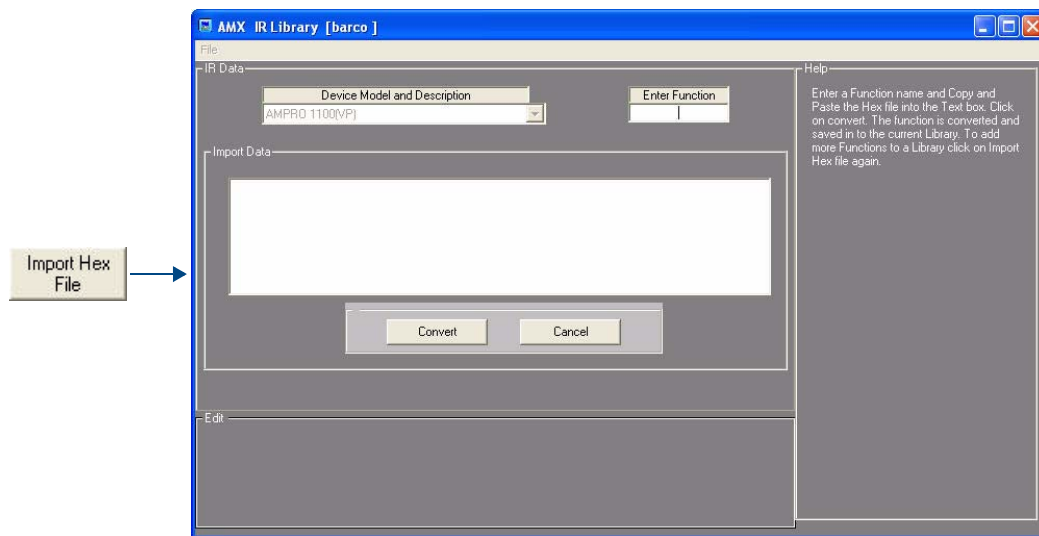

FIG. 80 AMX Library Files dialog - Hex data import and conversion options
1. In the Edit Options window of the AMX Library Files dialog, click **Import Hex File** to access the Hex data import and conversion options (FIG. 80).
5. In the Edit Options window of the AMX Library Files dialog, click **Import Hex File** to access the Hex data import and conversion options (FIG. 80).